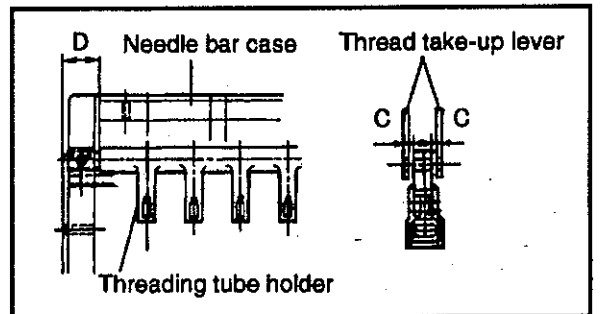

FIG.4
- (5) Check that distance D from the Face plate bracket attachment surface to the threading tube holder left end is 14 ±0.2mm (Reference value Fig.4).